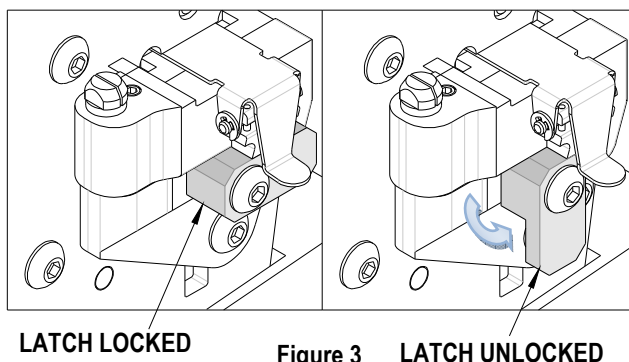

Figure 3 LATCH UNLOCKED
2. Turn the Locator Lock Latch down to unlock. See Figure 3.